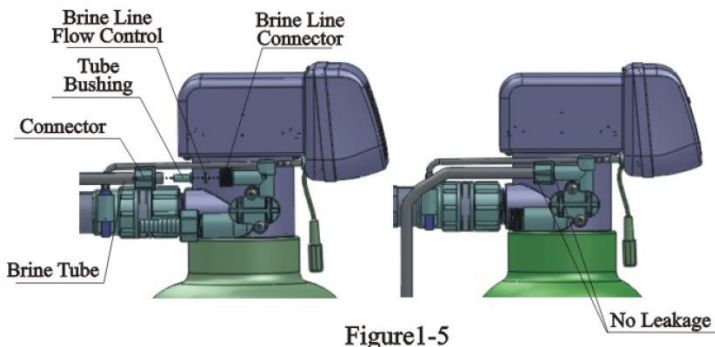

Figure1-5
**⑥ Connect brine tube**
a.As Figure1-5 shows, slide 3/8"brine tube hose connector over end of brine tube.